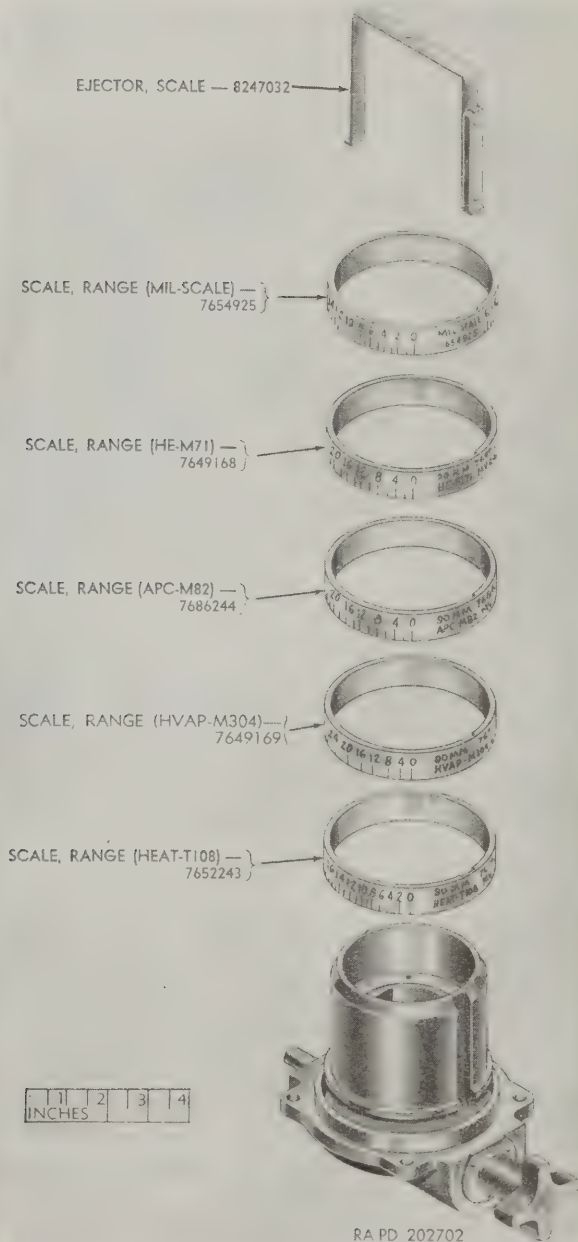

Figure 11. Base assembly 8237117—partial exploded view.
a. Lift the ejector and its nested scales (fig. 11) free from the assembly. The scales are then removed from the ejector by pinching together the lower ends of the ejector.
k. Examine the graduations on the scales for legibility. Refill the graduations if necessary (par. 28). Place the five range scales (fig. 11) in position on the scale ejector by squeezing the lower ends of the ejector together slightly. The slots in each scale should engage the key on one leg of the ejector.